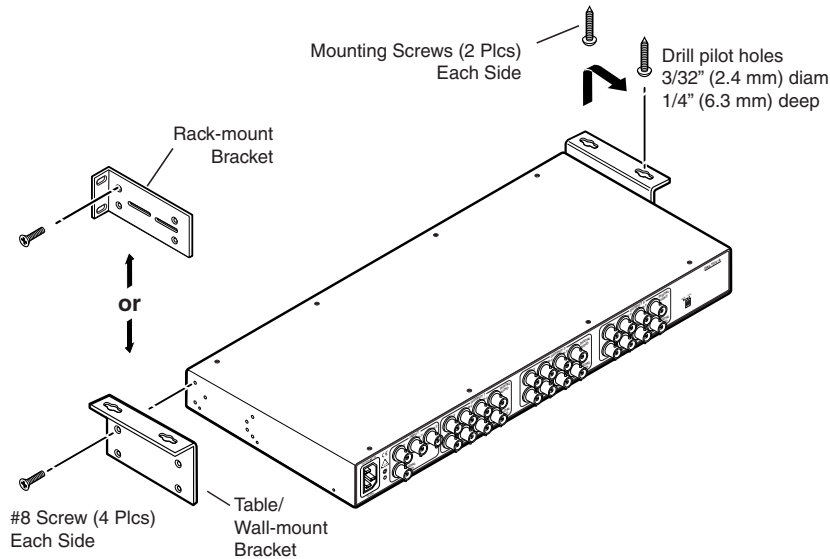
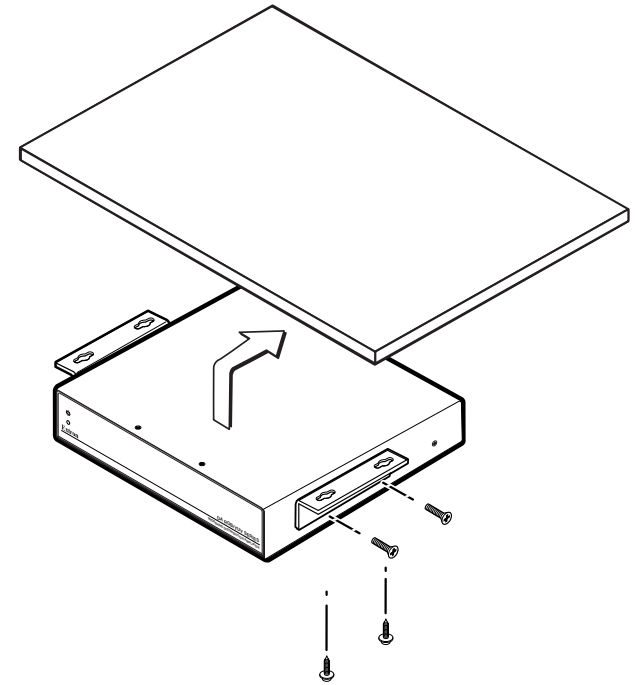

Figure 2-2 — Rack mounting a DA4 or DA6
Figure 2-3 — Under-furniture mounting
1. Attach the rack mount brackets to the DA with the eight provided #8 machine screws (figure 2-2).
1. Secure the under-desk mounting brackets to the DA with the four (DA2) or eight (DA 4 and DA6) machine screws provided in the mounting kit (figure 2-2 for the DA4 and DA 6 or figure 2-3 for the DA 2).